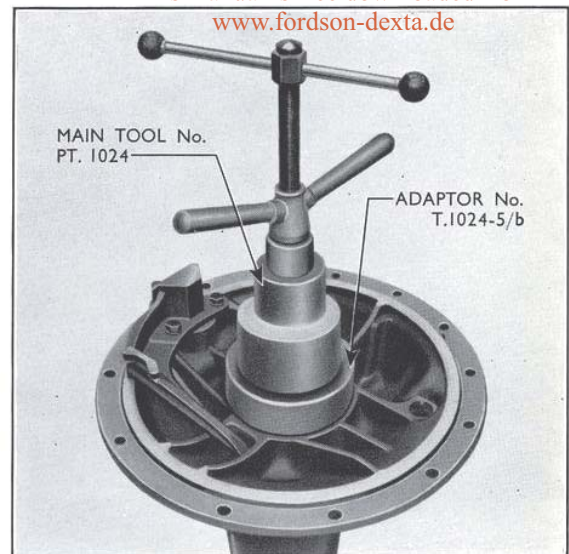

Fig. 13
1. To remove the left-hand differential bearing cup use Main Tool No. PT.1024 with adaptor ring T.1024-5/b and split adaptors T.1024-5/a. Engage the split adaptors with the bearing cup and the centre button on the tool shaft, and tighten the large wing nut to pull the cup from the housing (see Fig. 13).